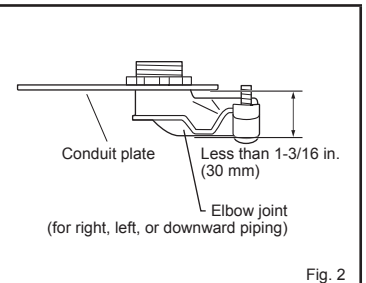

Fig. 2
- Attach straight joint (for rear piping) / elbow joint (for right, left, or downward piping) to conduit plate with lock nut. The thread of the installed conduit pipe / elbow joint appearing inside should be less than 3/8 in. (10 mm). (Fig. 1) Elbow joint should appear less than 1-3/16 in. (30 mm) outside. (Fig. 2)
- 3) Pull out the drain hose at the back left of the indoor unit. (Fig. 2)
- If the drain hose provided with the indoor unit is too short, connect it with a field-supplied drain hose (I). (Fig. 2)